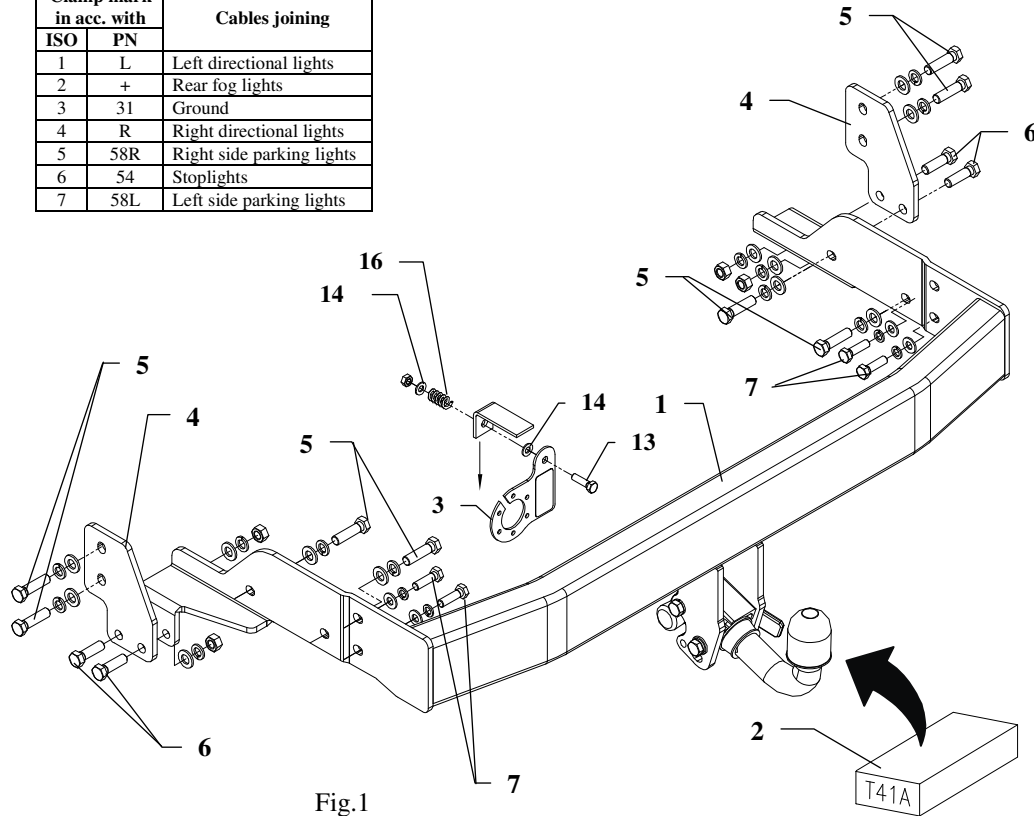
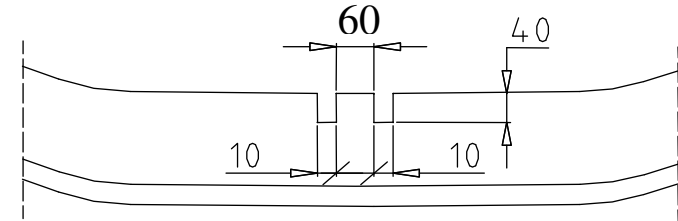

Fig.1
Fig. 2
4. Put main bar (pos. 1) to frame of car in this way, so holes in towbar agree to original holes and fix all using bolts M12x45mm (pos. 5) and M10x1,25x35mm (pos. 7) – see figure 1.
5. Fish-plates pos. 4 put as shown in the figure and fix using bolts M12x45mm (pos. 5) and bolts M12x40mm (pos. 6).
6. Assemble bumper after cut out his fragment – see fig. 2.